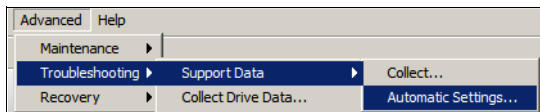
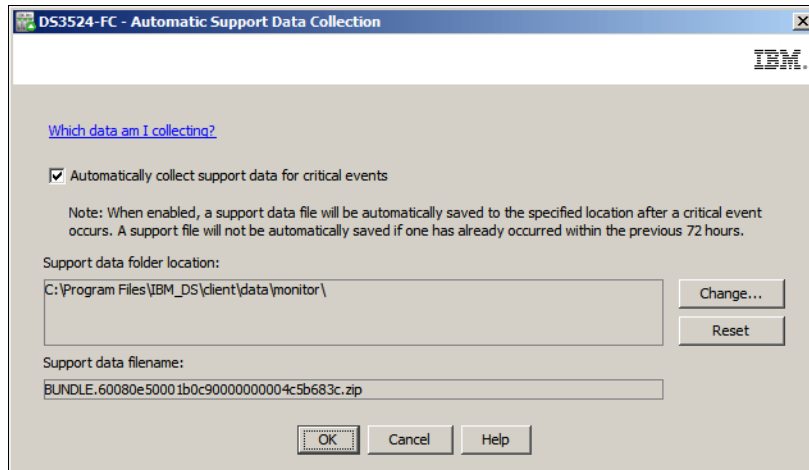

Figure 14-8 Open the Automatic Settings function from the Advanced menu
Figure 14-9 The Automatic Support Data Collection window
1. Click **Advanced** → **Troubleshooting** → **Support Data** → **Automatic Settings** (Figure 14-8) to open the Automatic Support Data Collection window (see Figure 14-9 on page 335).
2. Click the **Automatically collect support data for critical events** check box in the new window (Figure 14-9) to enable the automatic data collection and, optionally, you can use the **Change** button to specify the destination directory for the collected data. The value of the **Support data filename** cannot be changed.